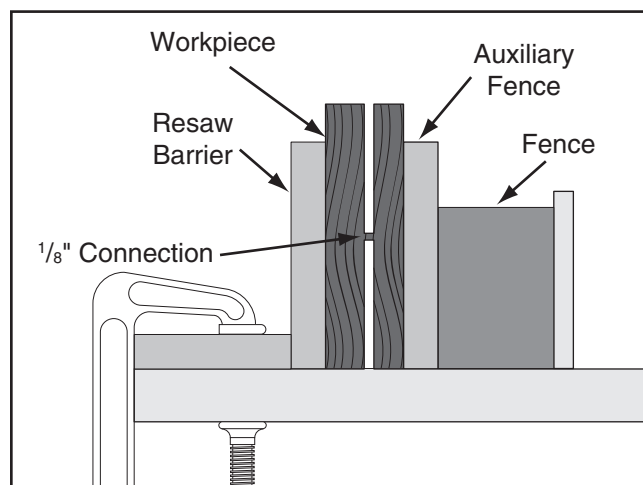

Figure 75. Ideal completed resaw cut.
7. Raise the blade approximately an inch, or close to half the height of the workpiece (**Figure 75**), whichever is less.
10. Repeat **Steps 7–9** until the blade is close to half of the height of the board to be resawn. The ideal completed resaw cut will leave an $\frac{1}{8}$ " connection when the resawing is complete, as shown in **Figure 75**. Leaving an $\frac{1}{8}$ " connection will reduce the risk of kickback.